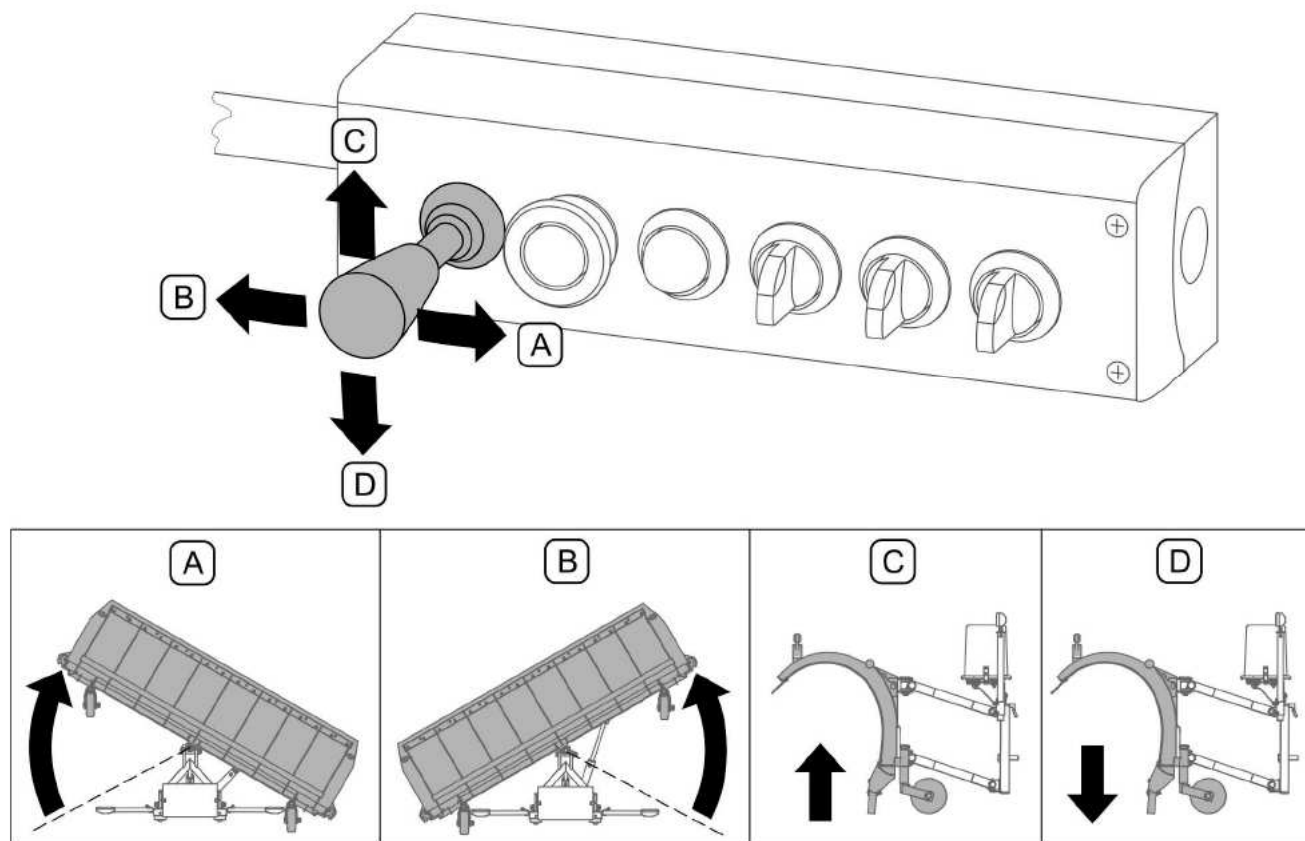

FIG. 4.12 Setting working position
PU-S25H / PU-S32H / PU-S35H ploughs can be set in two fixed working positions and intermediate positions. In order to change the plough working position, the control panel should be ON (main switch should be set to position „I“). Plough mouldboard position is changed by means of multifunction lever (FIG. 4.12). When the multifunction lever is set to the right position (A), the mouldboard turns to the right. When the multifunction lever is set to position (B), the mouldboard turns to the left. The plough lifting takes place when the multifunction lever is moved forward to position (C). To lower the plough, move the lever backwards to position (D). To set the mouldboard in intermediate position, release pressure on the multifunction lever at a proper moment. The lever will be set in the central (neutral) position.